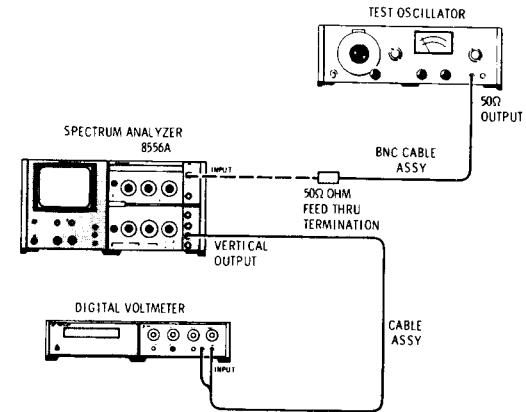

Figure 4-13. Input Level Control and Gain Compression Test Setup
- Connect equipment as shown in Figure 4-13, connecting the Test Oscillator to INPUT through the 50 Ohm Feed Thru Termination and the Digital Voltmeter to VERTICAL OUTPUT.